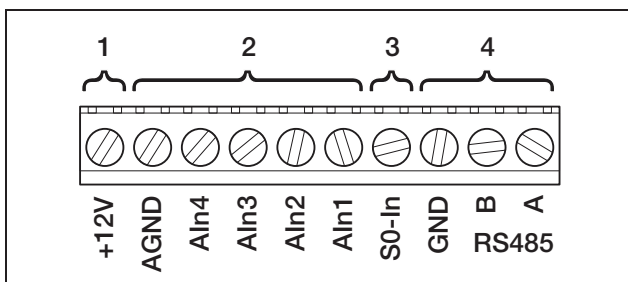

Fig. 63: Cable terminal
- Connect the lines to the terminal according to the terminal assignment (figure 63 and table 10).
Connections for the serial **RS485 interface** are found **on the terminal for analogue interfaces (figure 63)**. Using RS485, up to 200 inverters - depending on the inverters used - can be connected.
- Connect the lines to the terminal (4 in figure 63) according to the terminal assignment (table 7).